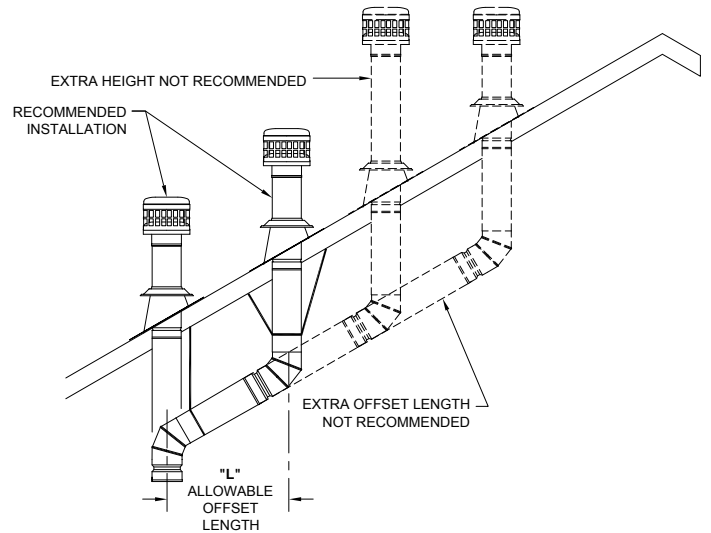

FIG. 2
2. Offsets in attics should be minimal. 30° and 45° angles are preferred although one 60° offset may be permitted. Maximum horizontal length (L in **Fig. 2**) is limited to 18" per inch of vent diameter as follows: